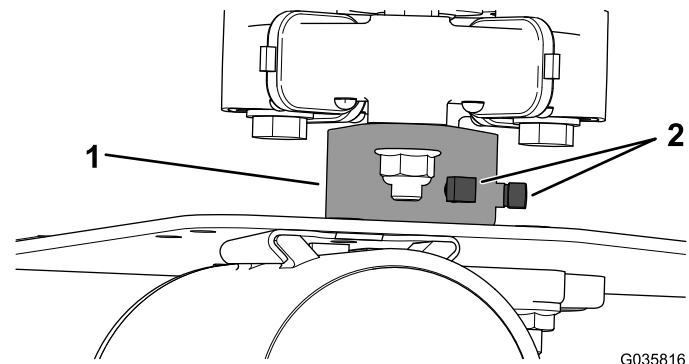

Figure 1
1. Loosen the 2 set screws on the hydraulic-pump hub (Figure 1).